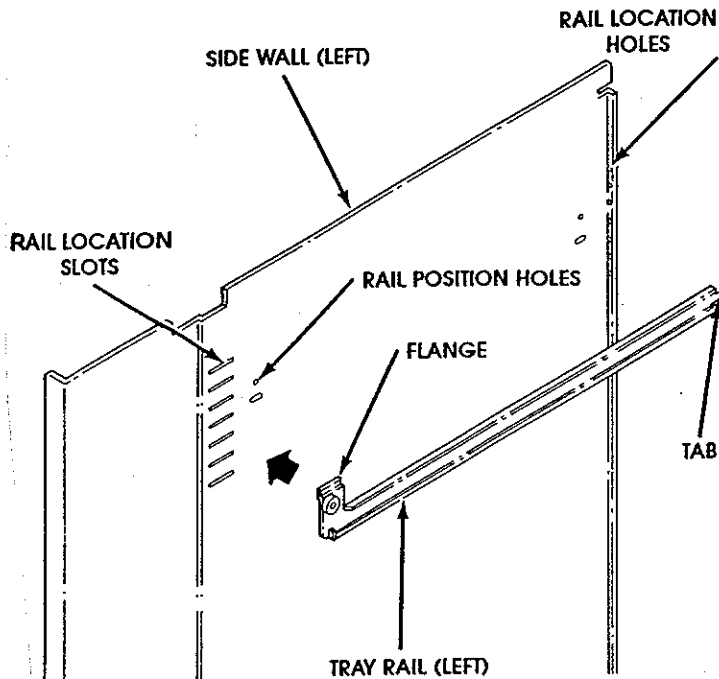

Figure 13. Removing a Tray Rail
7. Pull each rail forward to disengage its rear tab from the hole in the rear wall. See Figure 13.